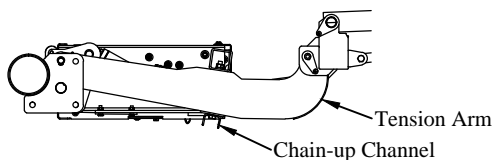
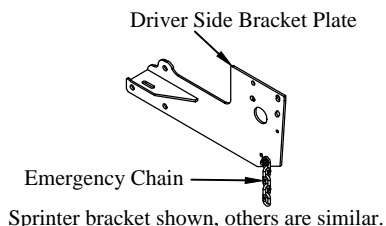

Figure 6: Chain-up channel location.
Figure 7: Emergency chain location.
5. **Attach** the emergency chain (Figure 7) to the bolt located in the chain-up channel (Figure 6) of the tension arm. If a jack was used in step 4, it can now be removed.
5. **Remove** the emergency chain from the chain up channel (Figure 6 and 7).